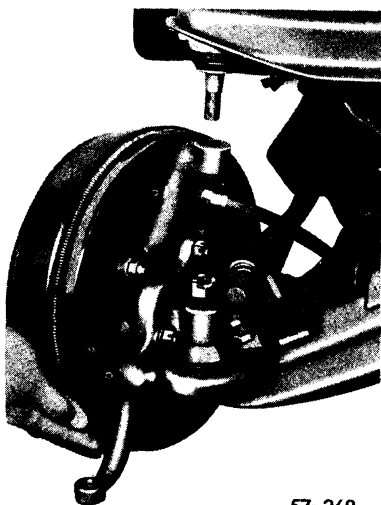

Fig. 31—Removing or Installing Steering Knuckle
15. SERVICING THE STEERING KNUCKLES (FIG. 31)
To install steering knuckle, refer to Fig. 31, and slide upper and lower ball joint studs into steering knuckle and install lockwashers and nuts. Tighten the ball joint stud nut to 135 foot-pounds torque. Install cotter pins.